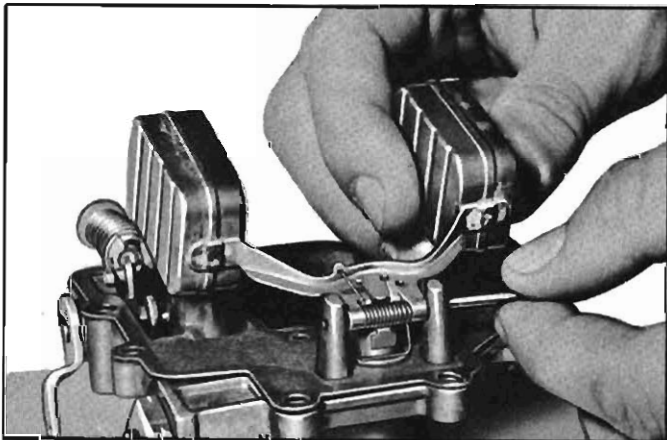

Fig. 20—Replacing Floats
- 9. Install a new gasket and replace float and pin (fig. 20). Check float level and float drop with Tool J-21614 (figures 10 and 11).